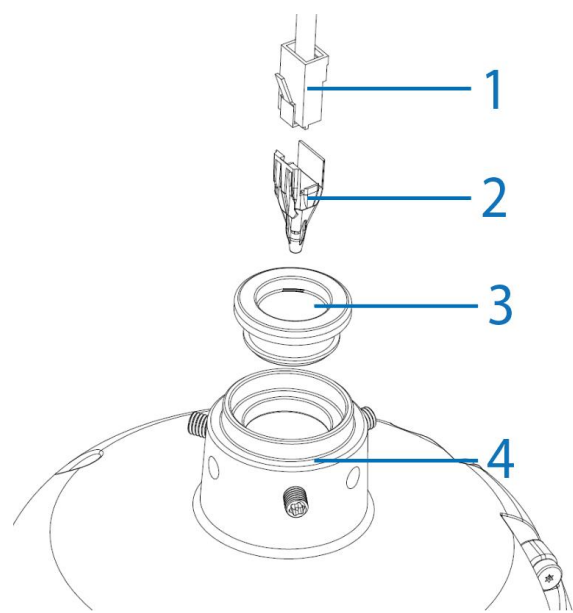

Figure 7
2. Insert the RJ45 cable connector (1) (Figure 7) into the insert tool (2) (Figure 7).
3. Push the insert tool and cable through the grommet hole (3) (Figure 7).
4. Remove the insert tool from the RJ45 connector and pass the cable through the NPT cap (4) (Figure 7).